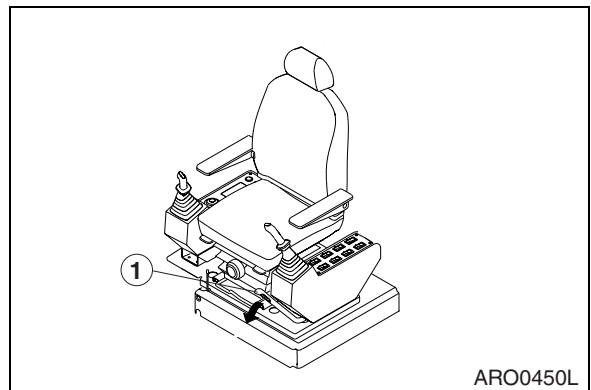

Figure 19
3. Set safety lever (1, Figure 19) on "UNLOCK" position.